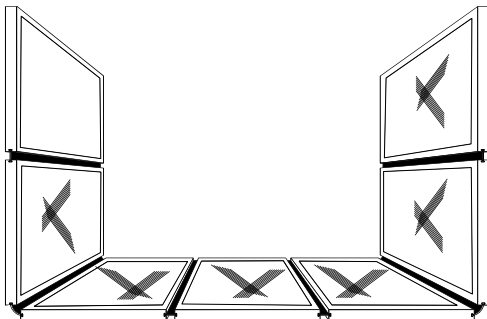

Fig. 7
1. Complete unfolding the screen sections into a rectangle in the exact location you want to install your Add-A-Room onto the base (see Fig. 7).